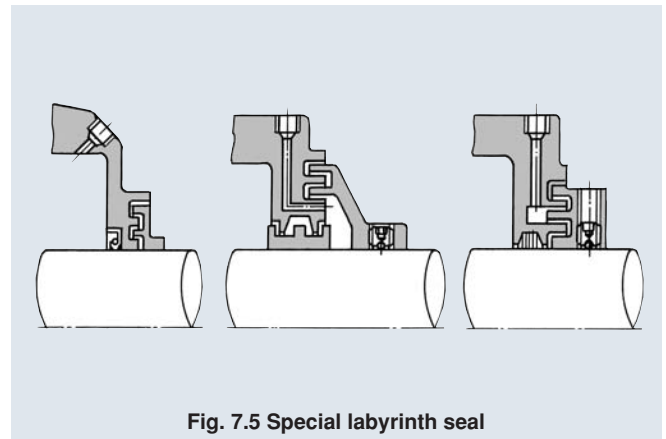

Fig. 7.5 Special labyrinth seal
(2) Special labyrinth seal (Fig. 7.5)
The special labyrinth seals such as those in Fig. 7.5 are very useful for applications where heavy soil and dust are present.